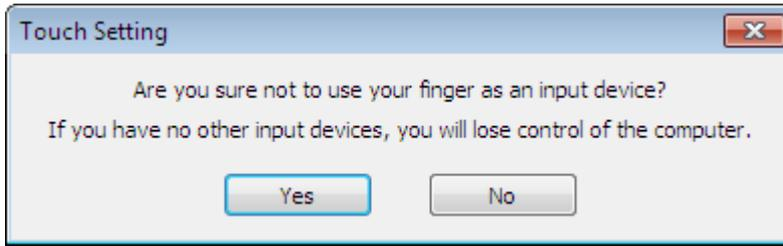

Figure 3-23
1) Not selecting "Use your finger as an input device" and click "Yes", a dialogue box will pop up (Figure 3-23), asking if you want to cancel the touching function. Click "Yes" to deactivate and "No" to activate.